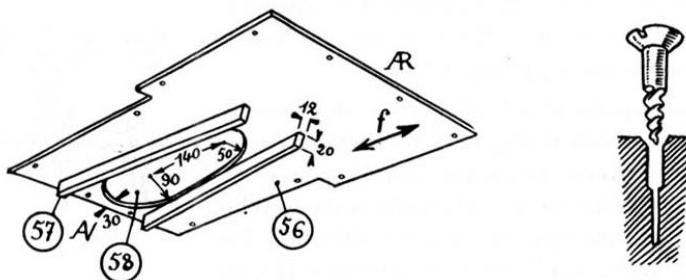

Figure 3.10: Seat bottom from below
The members ⑯, ⑯, ⑯, ⑯ and ⑮ are all on the same plane, and support the seat-bottom ⑯, which is seen from below in fig. 3.10. Determine its form in place with cardboard, so as not to waste plywood unnecessarily. This panel is only secured